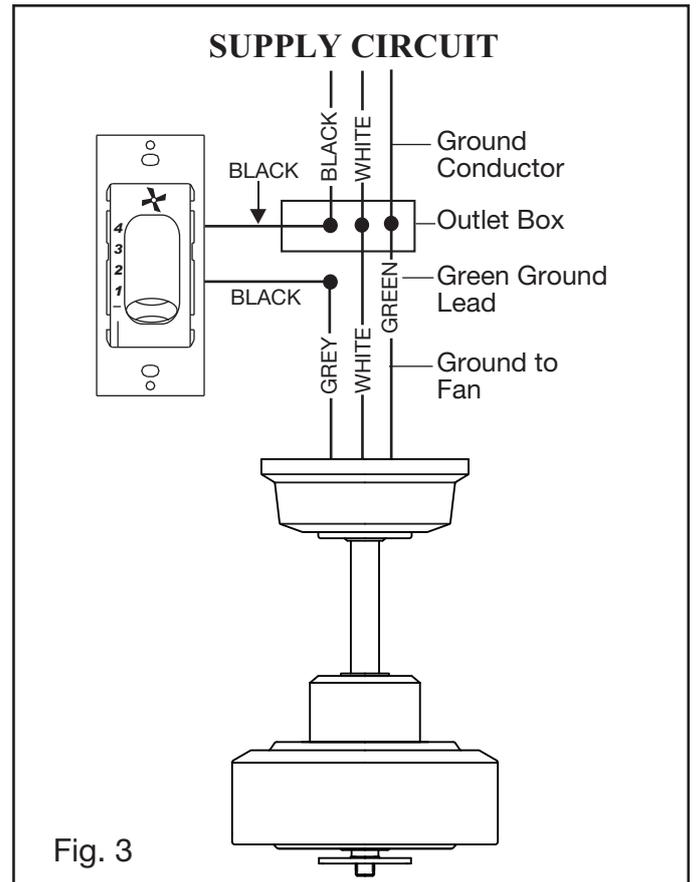

Fig. 3
b. Connecting the wires from the wall switch to the wires from the wall outlet box. (Fig. 3 & 4)